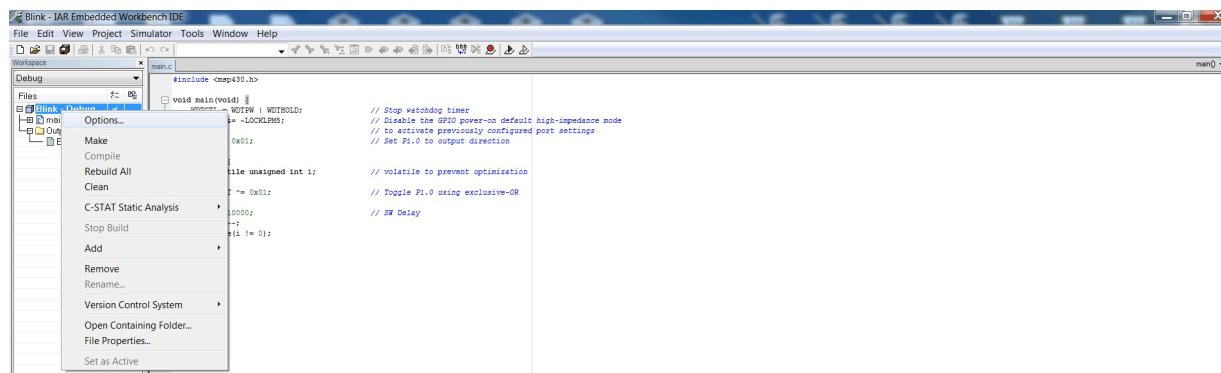

Figure 7. IAR – Project Options
1. Right click on the Project (the Blink example code is used in Figure 7), and select **Options**.